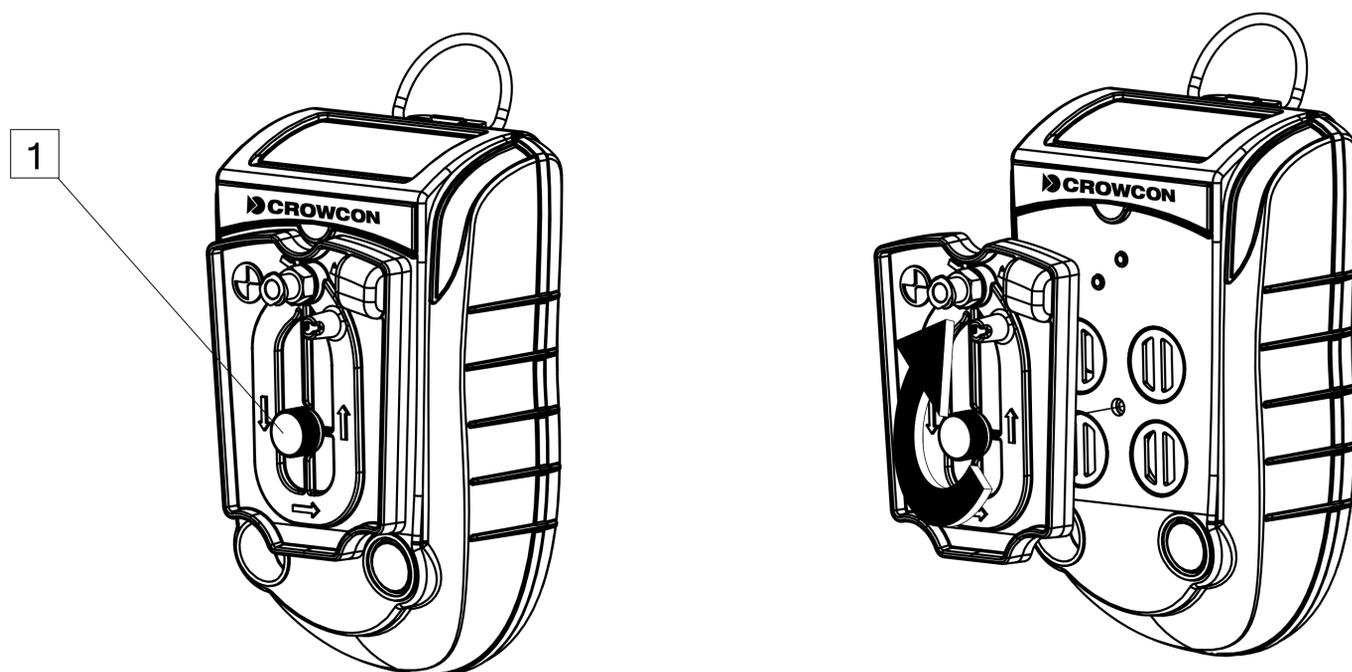

Figure 5:
- ① Pumped flow plate
- ② Non pumped flow plate
- ③ PC Cal/Test Flow Plate
Check the flow plate's gasket is free from dirt and has not been damaged prior to fitting. To fit a flow plate, locate it over the Gas-Pro sensors as shown in Figure 5 and tighten the securing screw ①.